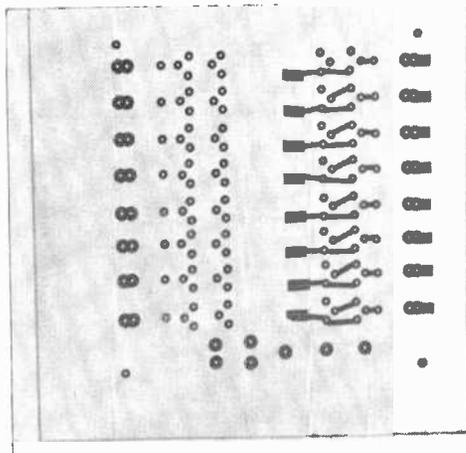

Fig. 2. Typical pattern on plastic sheet. Remaining lines must be added.
**Fig. 2. Actual foil pattern (above) and component installation (left) for a 16-terminal lamp. If you need only 16 terminals, top end circuits are removed and two leads taken from 16-terminal cable.**
Begin your layout by pasting solder pads on the acetate, matching the dot sizes reasonably close as shown in Fig. 2. After all the pads are in place, put a piece of paper over the layout and use the back of a spoon to burnish them down.